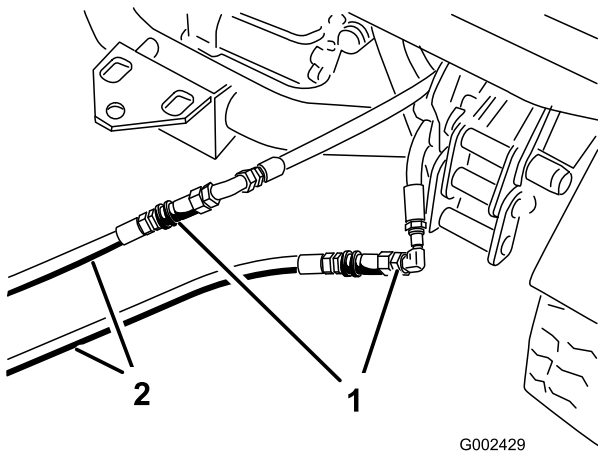

Figure 62
- On the disabled vehicle, connect the two jumper hoses to the hoses that were disconnected (Figure 62). Cap unused fittings.